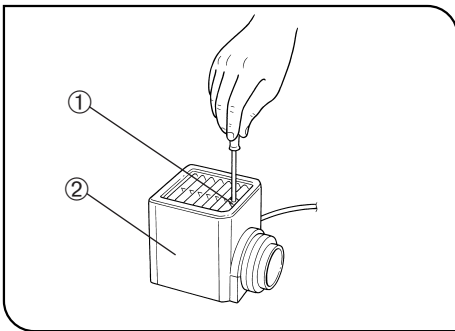

Fig. 63
2 Attaching the Halogen Bulb (Figs. 63 to 65)
5. Fit the lamp housing from up and tighten the clamping screw ① by applying downward pressure. (Fig. 63)